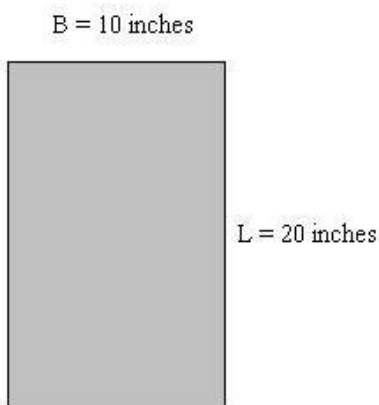

Figure 1: Cross-sectional area.
1. Calculate the maximum tensile and compressive forces allowed for the cross-sectional area shown in Figure 1. The maximum tensile strength is  $500 \text{ lb/in}^2$  (pounds per inches squared). The maximum compressive strength is  $5,000 \text{ lb/in}^2$ . Use the following equations to complete the problem. Show your work and calculations.